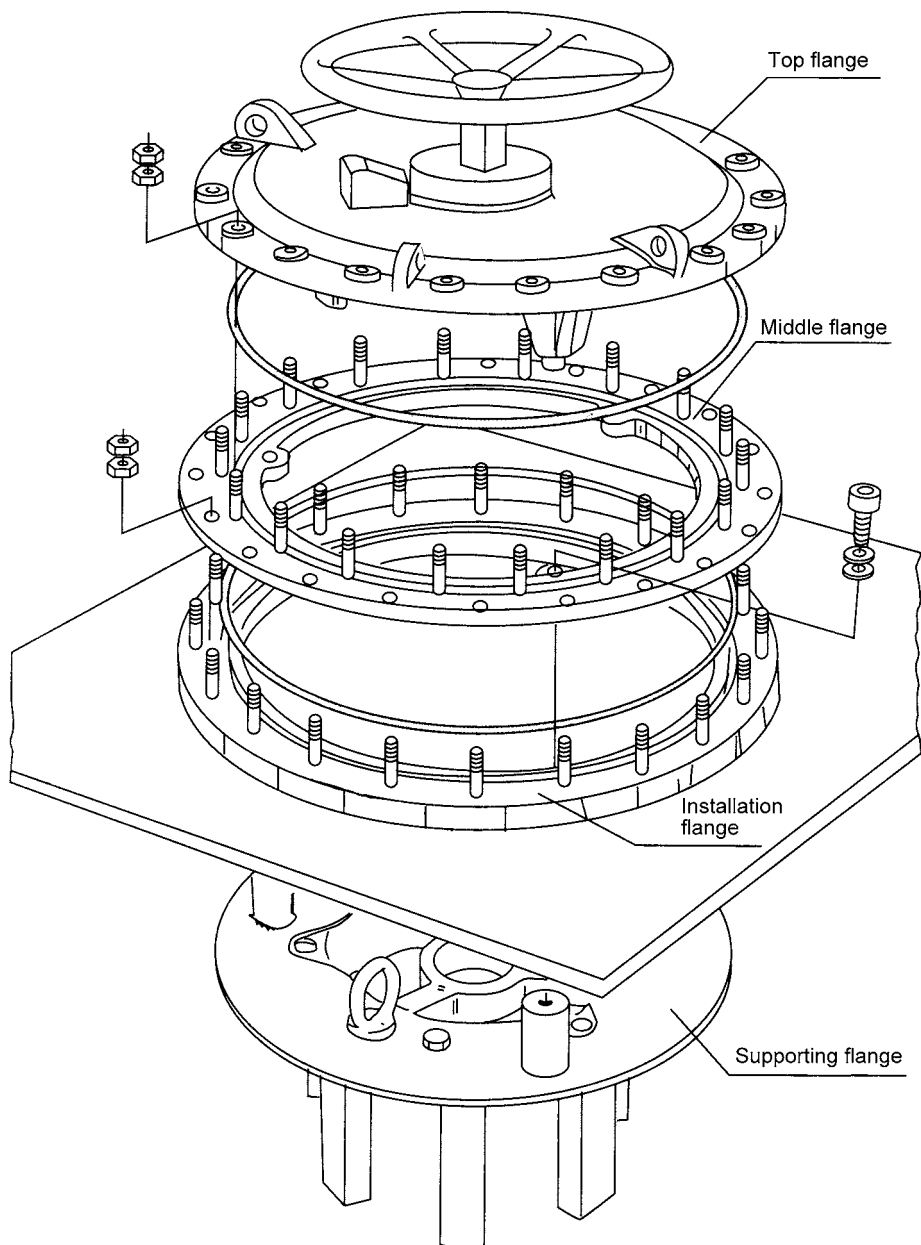

Fig.8 Installation diagram of the tap changer mounting on the bell type transformer
8.2.2 Installation of the off-circuit tap changer onto the Bell type cover (fig. 8)